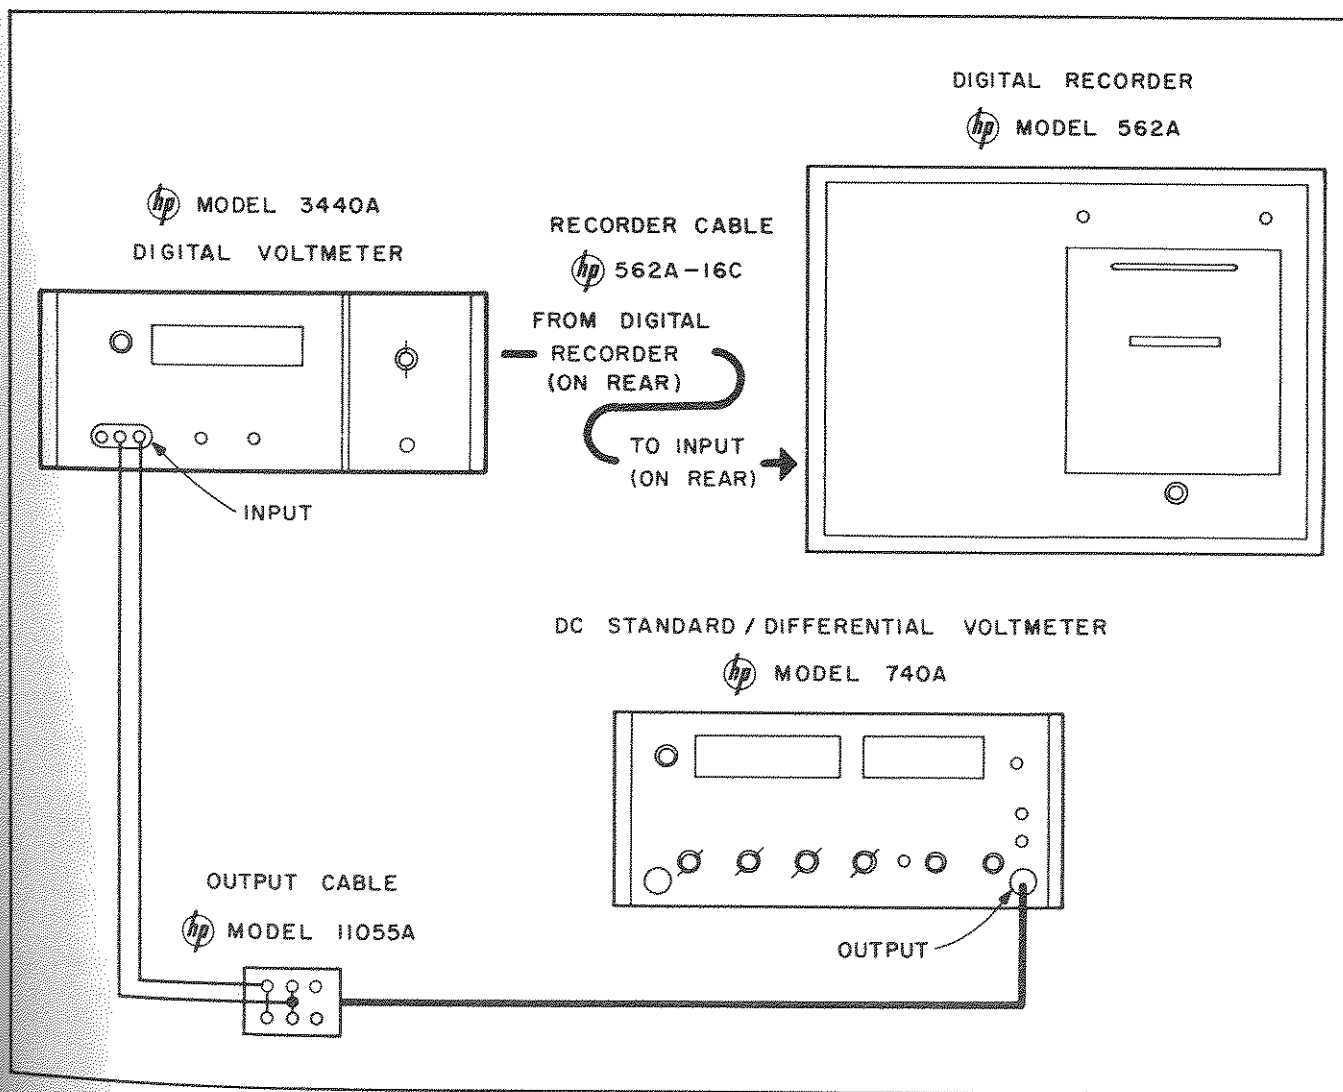

Figure 5-4. Digital Recorder Check
- a. Connect Model 3440A as shown in Figure 5-4.